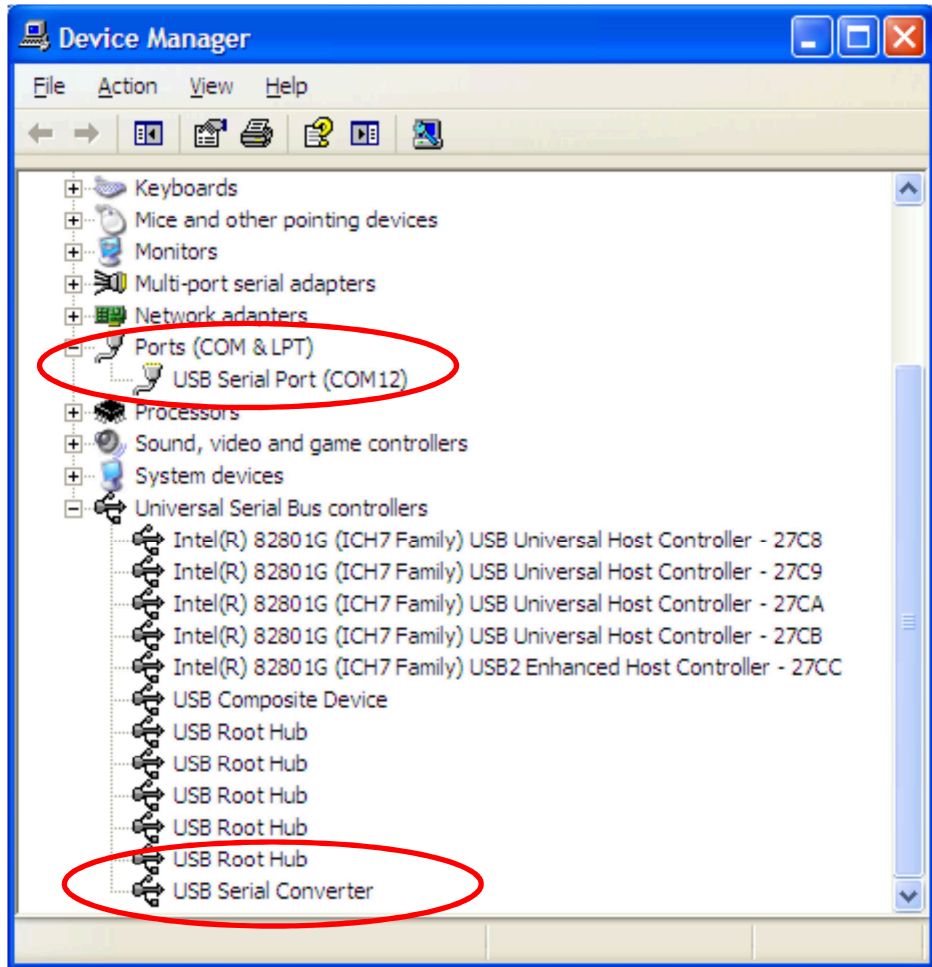

Figure 2
If this does not appear, it is likely that the PC has not yet acknowledged that the device is present. The device list can be refreshed in Device Manager which can usually be accessed from Control Panel. Once in Device Manager right click on the list and select “Scan for hardware changes”. The list should update to show the device as USB Serial Converter and under Ports (COM & LPT) as USB Serial Port (COM?). Example shown in Figure 2.
- The PTE application software will require you to enter the COM port number assigned to your serial adapter. This can be found under the Ports (COM & LPT section). In the example in Figure 2, the adapter was assigned COM12.